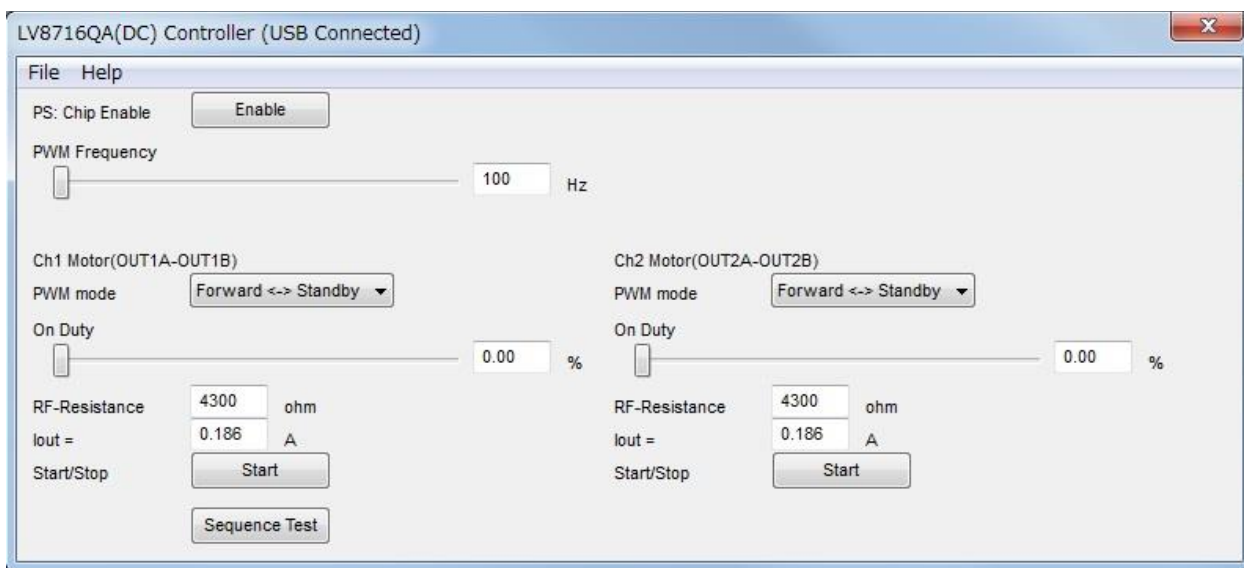

Figure 17. Controller window for brush DC
(14) The following windows should appear when “DC” is selected
- Controller (Figure 17)